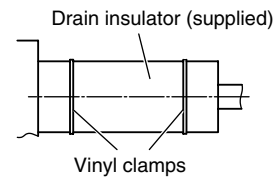

Fig. 3-7
- After checking the drainage, wrap the supplied packing and drain pipe insulator around the pipe. (Fig. 3-7)